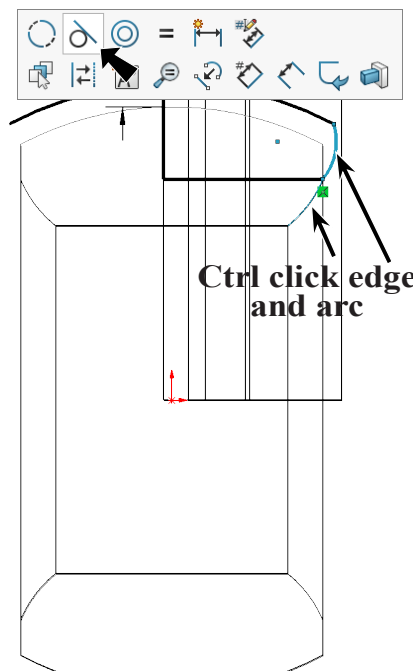

Fig. 23
Step 11. **Ctrl click curved edge of Revolve and arc** to select both. Release Ctrl key and click **Make Tangent**  on the context toolbar, Fig. 23.